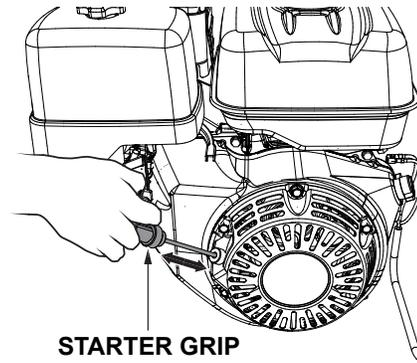

Figure 14. Starter Grip
5. If your generator is a recoil start only (no battery), grasp the starter grip (Figure 14) and slowly pull it out. The resistance becomes the hardest at a certain position, corresponding to the compression point. Pull the starter grip briskly and smoothly for starting. Proceed to step 6 if your unit is an electric start model (battery installed).